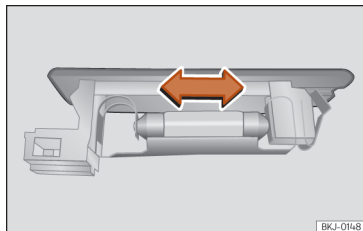

Fig. 170 Boot light.
- Press the bulb sideways and remove it from its housing >>> **Fig. 170**.